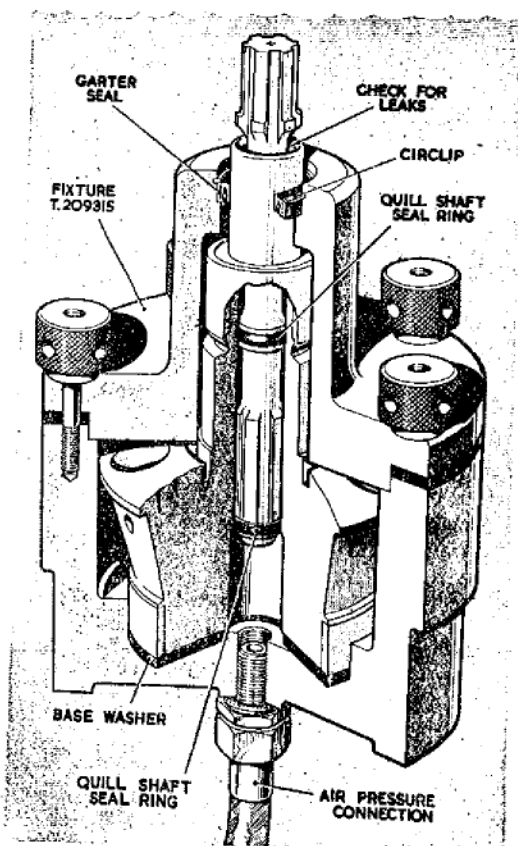

Fig. 14. Pressure testing quills shaft seal rings
131. (1) Separate the test chamber T.209315 (fig. 14). Ensure that the base seal washer is in position in the lower chamber, and mount the rotor assembly, with the quill shaft vertical, into the chamber.
(2) Place sheath T.201748 over the quill shaft both during assembling, and when dismantling after testing.
(3) With the joint washer in position, lower the upper half of the test chamber over the assembly sheath and secure the halves of the chamber together by tightening the five knurled set screws.
(4) Connect an airline to the tapping in the base of the lower half of the test chamber using an appropriate union. Immerse the chamber in a bath of kerosine, apply air at a pressure of 4 lb/in². If satisfactory, raise the air pressure to 40 lb/in² and again check for leakage.